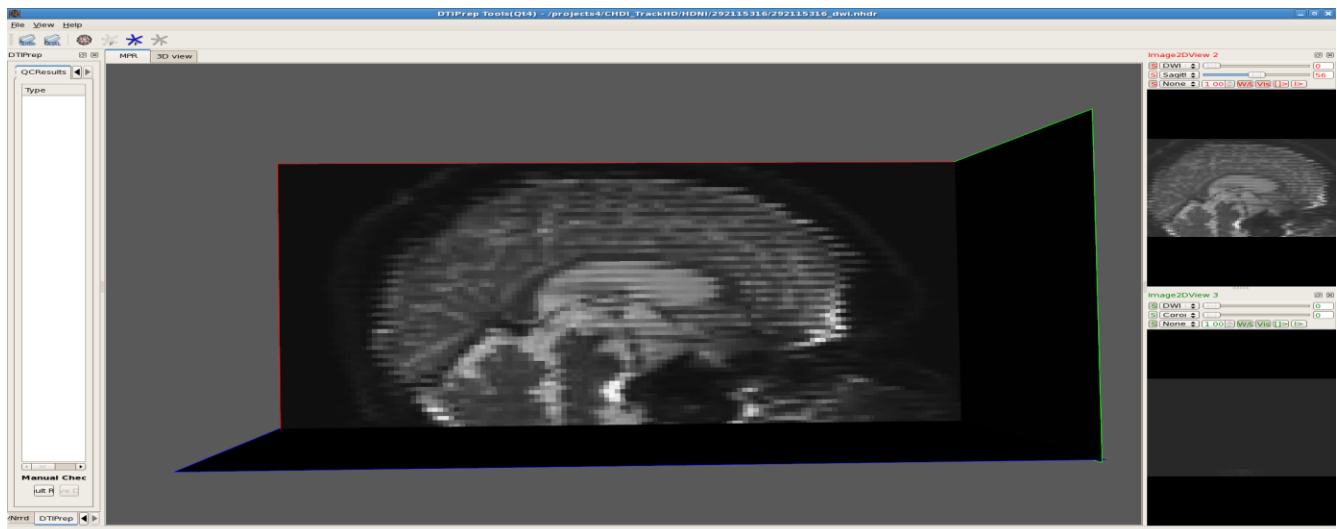
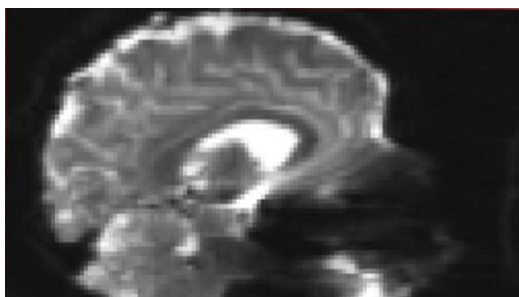

Figure 1.4 “Venetian Blind” Effect A clear example of the “venetian blind” artifact as seen in DTIPrep
Figure 1.7 (left) Frontal Distortions Distortion clearly visible in a baseline image from a Zoltan-protocol dataset
- Run the extraction script, ExtractGradDir.py on the ~_QCed.nhdr file, to remove directions deemed appropriate for manual exclusion based on image quality. These include gradients with “venetian blind” effects (Fig. 1.4), “checkers” effects Fig. (1.5), motion artifacts as well as gradients containing one or more axial slices displaying higher or lower intensities across the whole slice (Fig. 1.7).